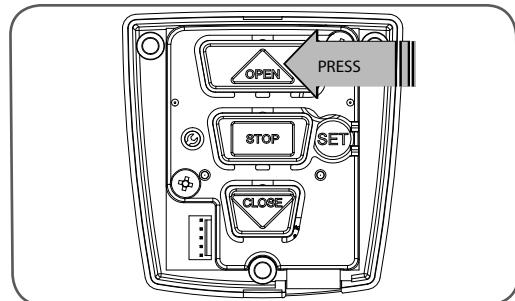

fig 10
4. Press and hold the OPEN button (Fig. 10) to open the shutter. When the shutter is at the desired open position, release the OPEN button